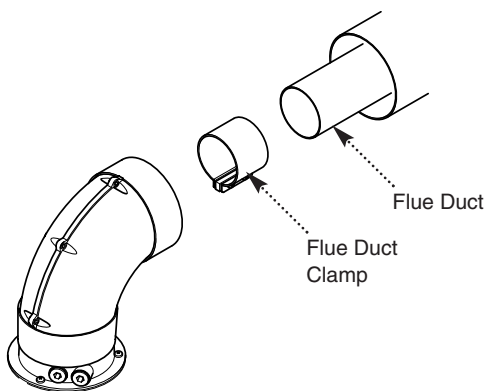

Fig. 22
11. Locate the flue duct clamp on the flue outlet elbow. Draw the flue duct out of the air duct, engage it in the clamp and tighten the screws (Fig. 22).